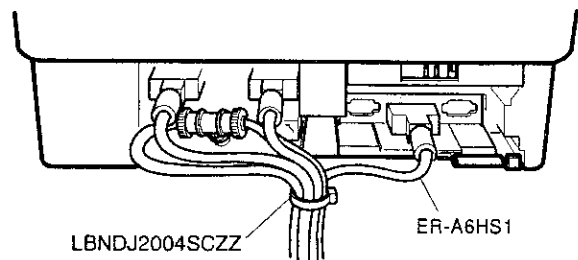

Fig. 8
- 3) The picture below shows how to pull out the cables from the center. (Fig. 8)